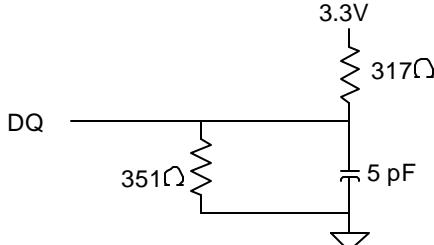

Fig.2 OUTPUT LOAD EQUIVALENT
6. Output loading is specified with $G_L=5$ pF as in Fig.2.